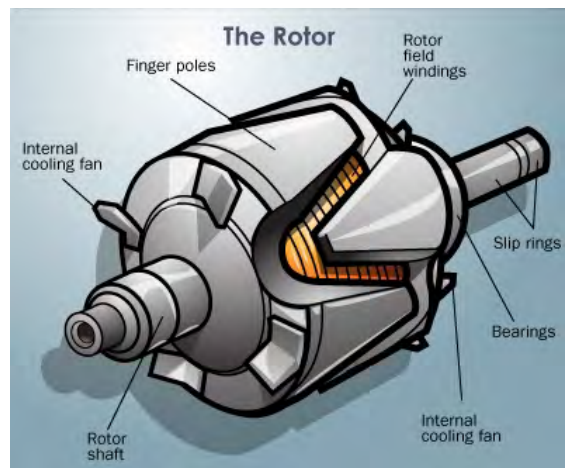

Figure 3.1: *Rotor*
1. **Rotor:** The rotor is the rotating part of the alternator. It has winding placed between two poles (magnetic) pieces. When current is fed to the windings through the brushes and slip rings magnetism is produced. The magnetism in the winding turns the points on the pole pieces into north and south poles. Magnetic lines of force exist between the north and south poles. Figure 3.1 shows a rotor.